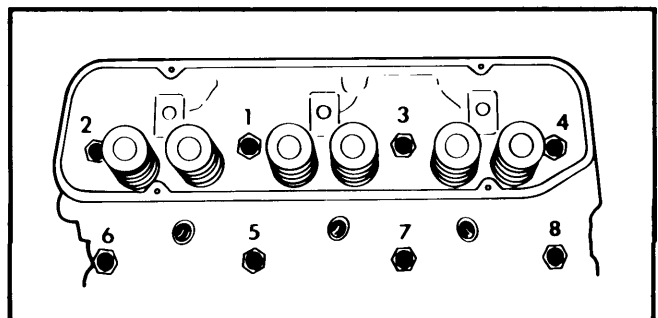

Fig. 3 Cylinder Head Tightening Sequence V6
**Installation** — Make sure mating surfaces and bolt holes are clean. Check bolt threads for burrs. Position new gasket on block and install head. Lubricate bolts and tighten in sequence. See Fig. 3 or 4. To complete installation, reverse removal procedures.